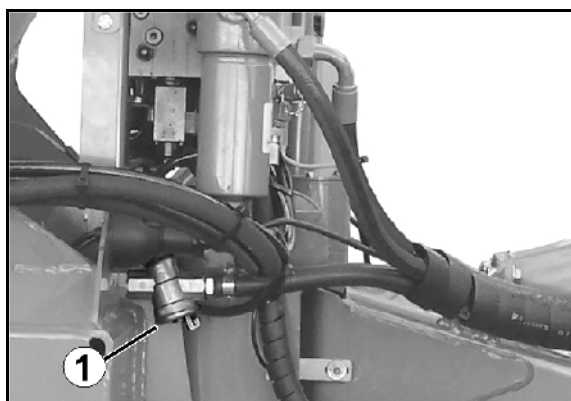

Fig. 122
1. Press together the locking piece (Fig. 122/1) on the two lugs.
4. Press together the locking piece (Fig. 122/1) on the two lugs.